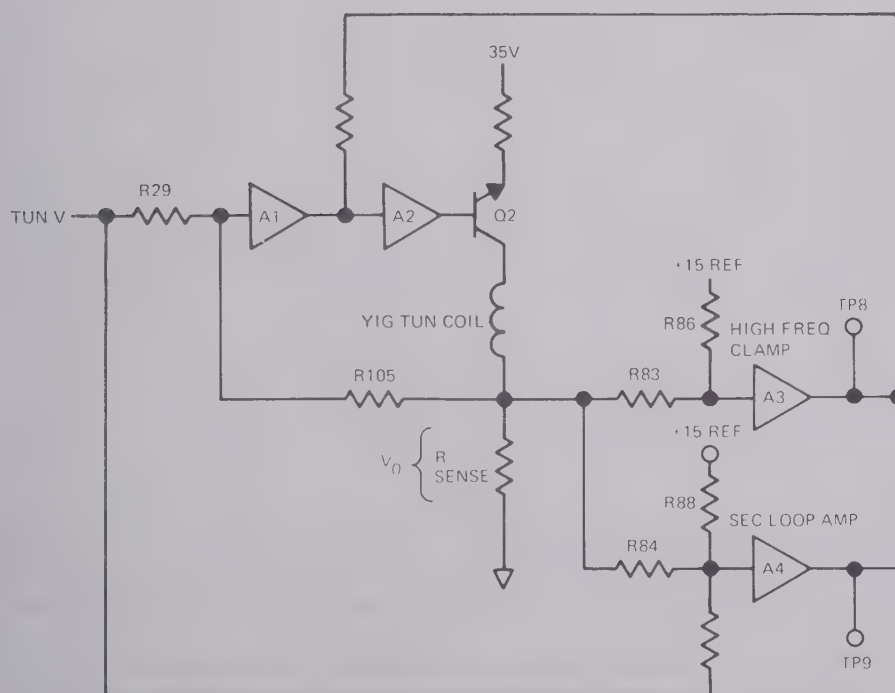

Fig. 3 Simplified circuit diagram of YIG tuning supply
11. The feedback amplifier used to control the current in the tuning coils of the YIG tuned oscillator is shown in Fig. 3. The circuit is configured as a current regulator. The voltage across the 'R sense' resistor is determined by the ratio of R105 to R29 and the amplitude of the input tuning voltage. The current that flows through the YIG tuning coil is then determined by V_0 and the parallel combination of R sense and R105. R sense is made considerably smaller than R105 and it dominates in setting the value of tuning coil current. The tuning coil current, therefore, is directly proportional to the input tuning voltage.